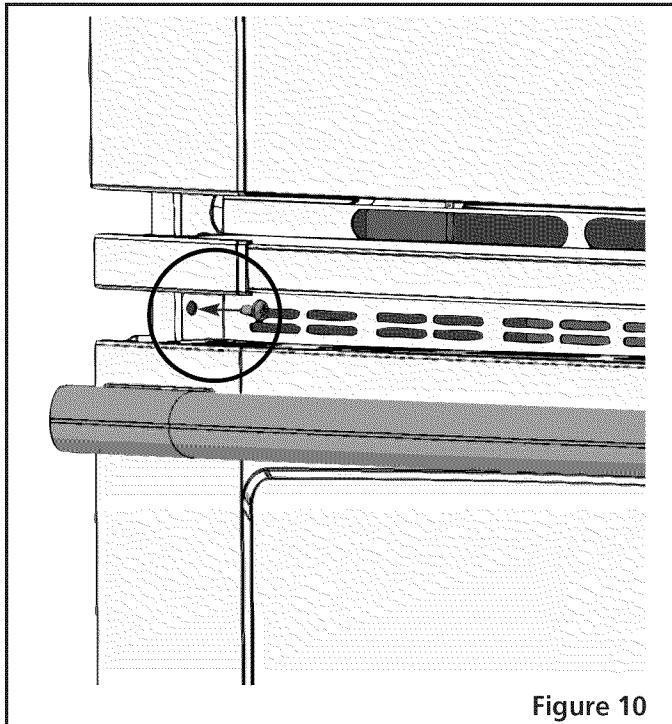

Figure 10
- A. The mounting holes in the side trims may be used as a template to locate the appliance mounting screw holes (see figure 10).